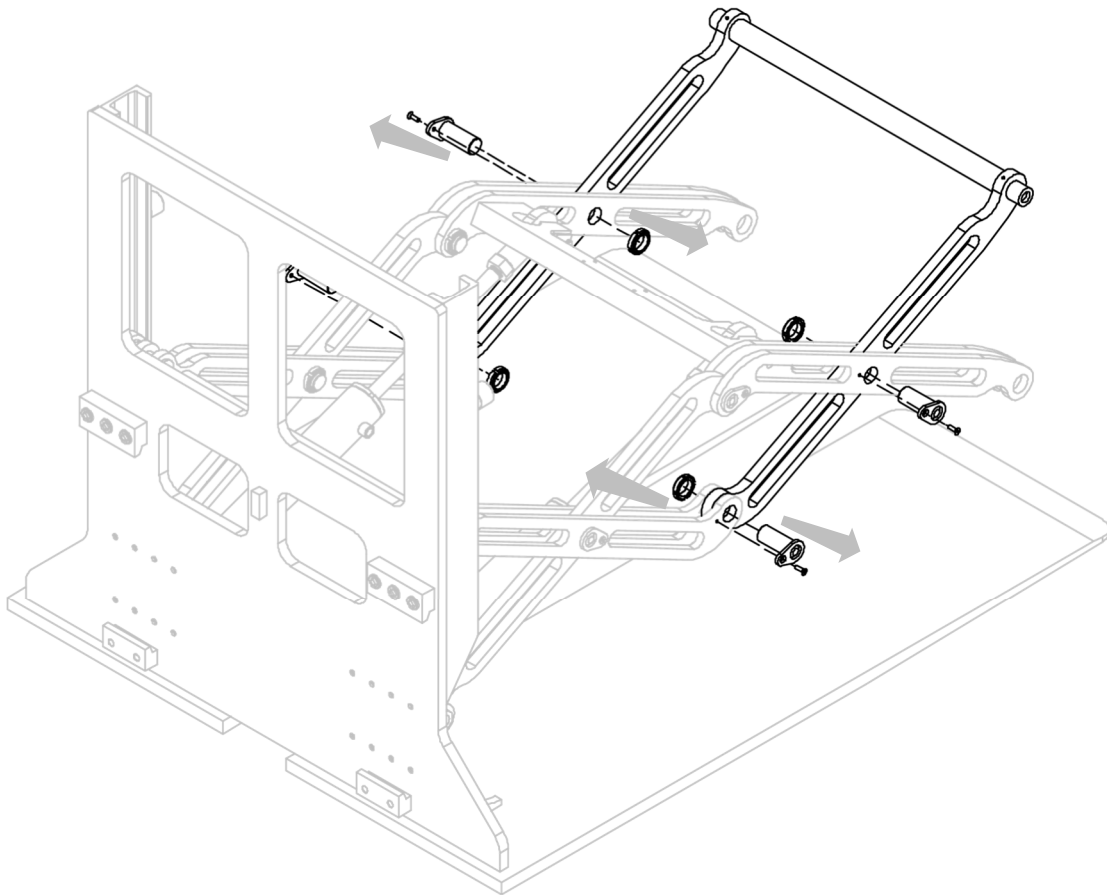

Figure 20
3. Remove the pins (with the relative screws and ring nuts) that lock the pair of arms (see *Figure 20*).